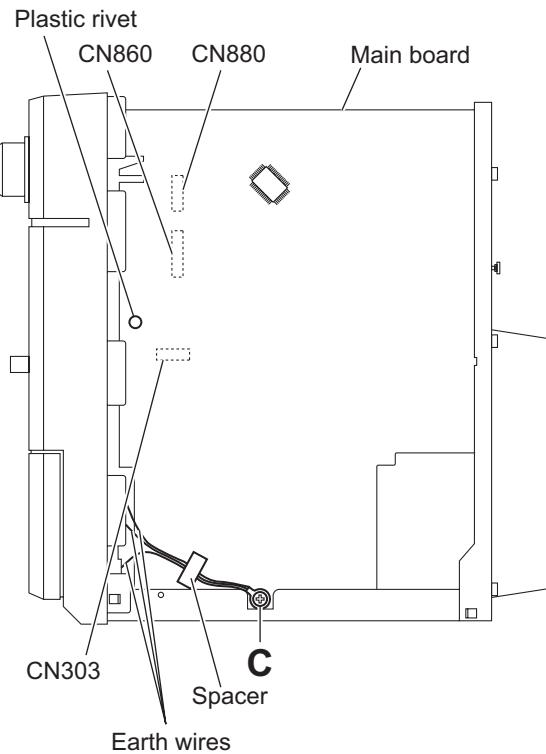

Fig.4
(See Figs.4 to 7)
(1) From the right side of the main body, remove the screw **C** attaching the earth wires on the reverse side of the main board. (See Fig.4.)
After attaching the earth wires, fix them with a spacer as before. (See Fig.4.)
(2) Remove the plastic rivet attaching the main board. (See Fig.4.)
(3) From the inside of the main body, disconnect the card wires from the connectors (CN303, CN860, CN880) on the forward side of the main board. (See Fig.4.)